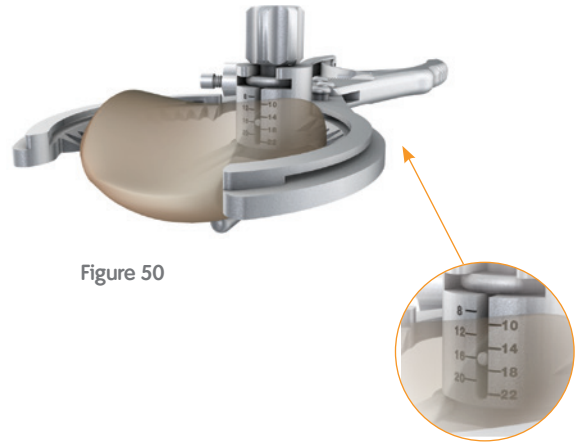

Figure 50
- 3 The Patella Resection Guide should be set at the amount of bone that should remain after cutting the patella – i.e., the difference between the original patellar thickness and the thickness of the resurfacing patella. The guide is set at this level by turning the knurled knob (Figure 50).